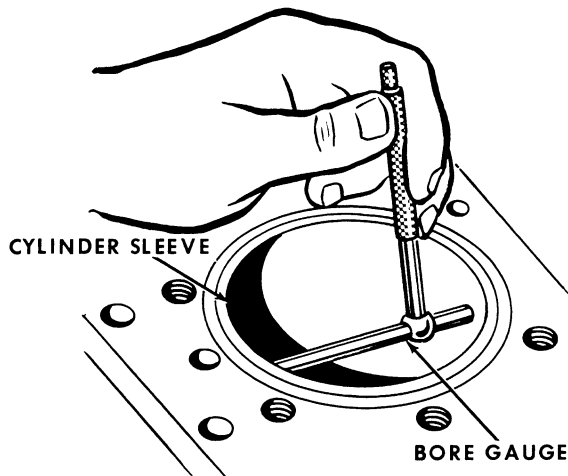

Figure M-26
2. Use an inside micrometer, Figure M-25 or a cylinder bore gauge, Figure M-26. Check the measurement of the inside diameter of the sleeve at a point  $\frac{9}{16}$  of an inch from the cylinder head end of the sleeve - (this is the top end of the ring travel).
CHECK THE INSIDE DIAMETER OF THE SLEEVE BOTH LENGTHWISE AND CROSSWISE, FIGURE M-26. CHECKING BOTH LENGTHWISE AND CROSSWISE WILL DETERMINE WHETHER OR NOT THE SLEEVE IS OUT OF ROUND. REFER TO "SPECIFICATION" SECTION.